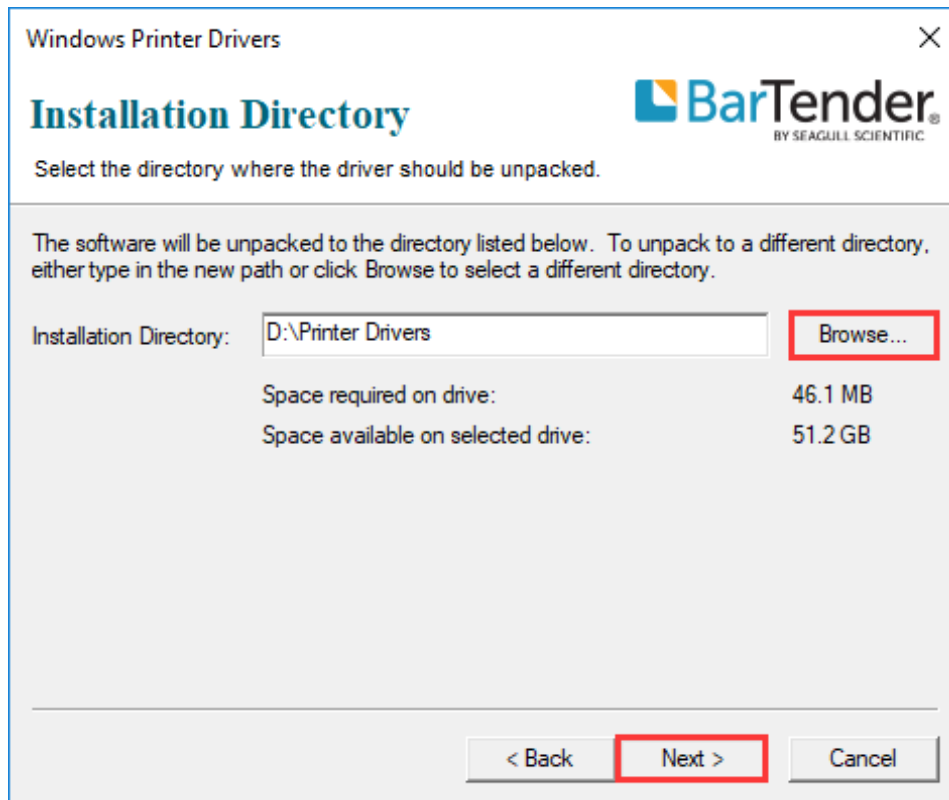

Figure 2-16 Installation Directory Screen
4. The “Installation Directory” screen displays. Click “Browse...” and select where the files will be installed, then click “Next”, as shown in Figure 2-16.